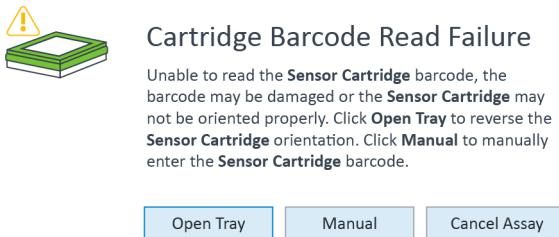

Figure 13. Cartridge Barcode Read Failure dialog box
For any Sensor Cartridge barcode read errors, Wave Controller displays a message and a choice of three corrective actions. (See **Figure 13**.)
- 1 Click the Tray Widget. Cartridge Barcode Read Failure dialog box appears. (See Figure 13 on page 33.)